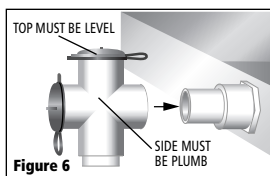

Figure 6
12. Glue inlet Cross onto stub. Cross **MUST BE PLUMB.** (Figure 6). Open (uncapped) end of cross faces down.